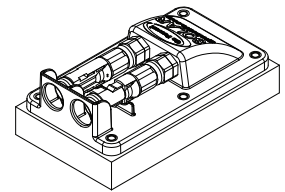

FIGURE 3-A: GP-CEP
5. Identify on your RV if you have a **Cable Entry Plate (GP-CEP)** see **Fig 3-A** pre-installed by the RV Manufacturer. The Cable Entry Plate makes the Solar Panel to Solar Charge Controller installation simpler. (After market purchase of GP-CEP available)